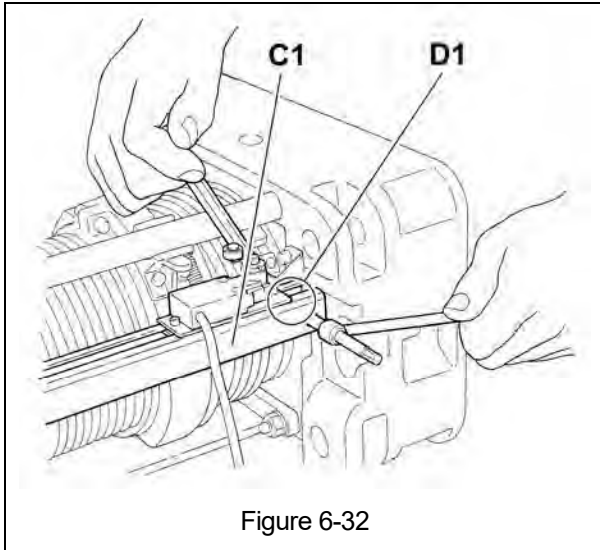
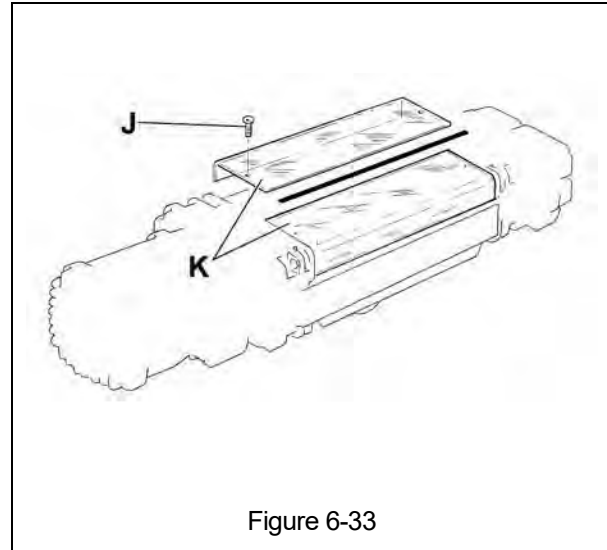

Figure 6-32
Figure 6-33
- **For OTHER THAN 4/1 Ultra-Low Headroom Version:** Re-seat the Anchorage Cross Head (A) onto the hoist (includes the Sheave Cross Head for 4/1 part/reeved hoists). Reinstall and tighten the Safety Screws (L) (see Figure 6-31). Reinstall the Dust Cover Halves (K) and tighten the four (4) Screws (J) (see Figure 6-33).
- **For 4/1 Ultra-Low Headroom Version:** Reinstall the Limit Switch Assembly (C1) and tighten the Screws (D1). Do not disconnect or change the setting of the Limit Switches (see Figure 6-32). Reinstall the Dust Cover Halves (K) and tighten the four (4) Screws (J) (see Figure 6-33).